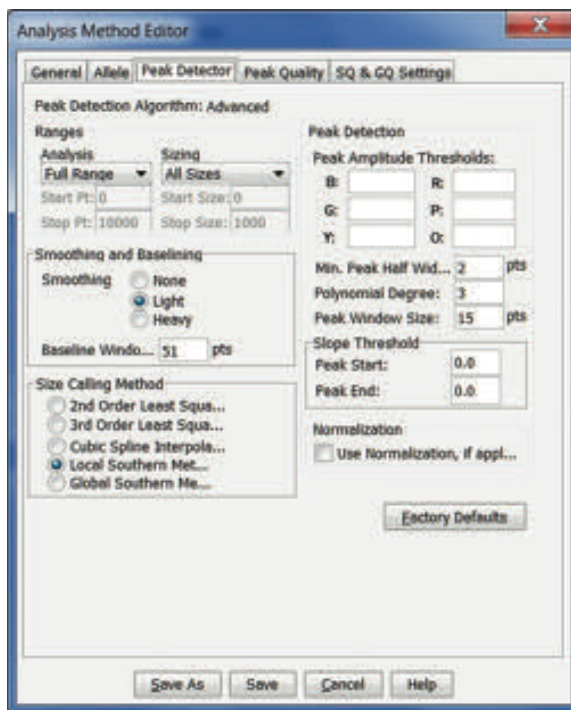

Figure 14. The GeneMapper® ID-X Software Peak Detector tab.
9. Select the Peak Detector tab (Figure 14). You will need to optimize these settings. In-house validation should be performed.